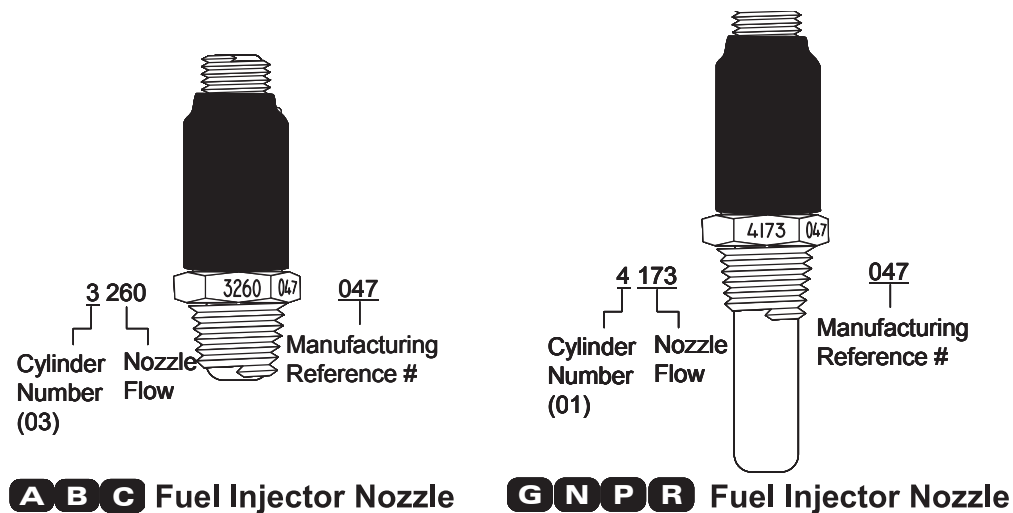

Figure 10-6. Post-2005 Position Tuned Fuel Injector Nozzle
Position tuned fuel injector nozzles manufactured after Dec 2005 are etched on four of the nozzle wrench flats (see Figure 10-6). To select the proper replacement nozzles, you must first identify which nozzle generation is installed. If the removed injectors do not conform
Observe the markings in Figure 10-6. A three digit numeric code identifies the nozzle orifice bore is stamped on two of the injector's hexagonal wrench flats – ignore this number! Adjacent to the three digit number, the injector is stamped on two of the hexagonal wrench flats with a four digit code indicating the cylinder position number and the nozzle flow; use this 4 digit number when assigning nozzles to cylinders. When ordering replacement nozzles, specify the position number and nozzle flow for each replacement nozzle required.
1. Verify the cylinder position number (Figure 10-6) engraved on the nozzle wrench flat matches the intended cylinder. If the nozzle is a replacement, the cylinder position number and nozzle flow must be a suitable for the intended cylinder position.